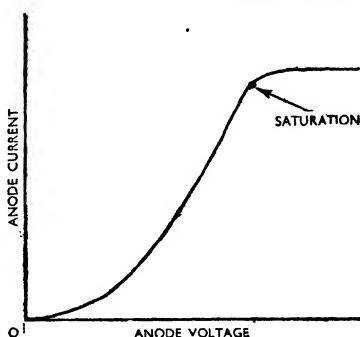

Fig. 2. Voltage/current characteristics of the anode of a diode.
The complete process is briefly as follows: A pulse is sent out by the transmitter, and simultaneously a suitable time-base voltage is applied to the horizontal deflecting plates of a cathode-ray tube at the receiver. This process is repeated indefinitely, the time-base circuit being synchronized with the pulse generator at the transmitter. Thus, as a pulse is going out into space, the spot on the cathode-ray tube moves from left to right, until, after a fixed time, it returns to the extreme left to start off again in synchronism with the next transmitted pulse. The received pulse, after amplification and rectification, is applied to the vertical deflection plates of the cathode-ray tube, where a "pip" will be seen (Fig. 2).
**Fig. 2.** When a pulse is radiated, the spot starts at A and moves across the screen to B; whilst on its way a "pip", shown at P, is received. Time base is provided with a range scale.
Thus, so long as the anode does not attempt to attract electrons as fast as they are emitted, the space charge is maintained in a state of equilibrium. If, however, the anode is sufficiently positive to collect the electrons as fast as they are liberated, saturation is said to occur and the electron-flow from cathode to anode is limited, further increases in anode potential having no effect on anode current (Fig. 2). If now the anode is made negative relative to the cathode, the space charge is repelled and no anode current can flow. A diode is thus essentially a unilateral conductor and can be used as a demodulator for radio-frequency signals or for rectification in general.